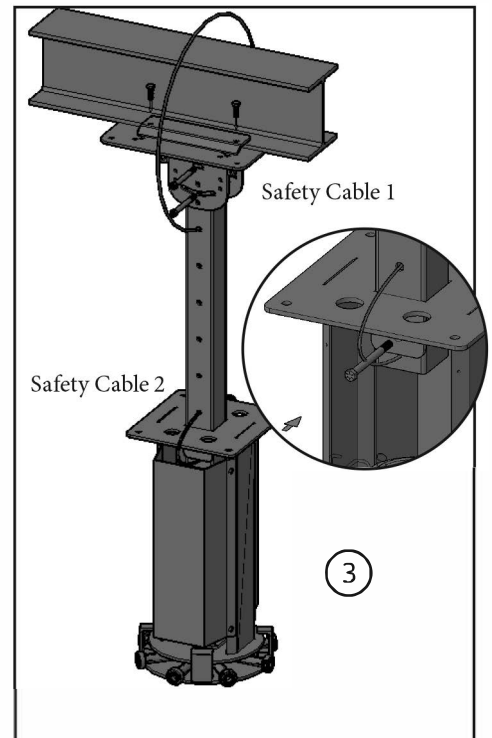

Fig. 8 - Attaching the powerhead assembly
- ③ Fasten the powerhead assembly to the steel downrod using (1)  $\frac{1}{2}$ -13 x 4- $\frac{1}{2}$ " G.5 HHCS, (1)  $\frac{1}{2}$ -13 G.5 Nylon Lock Nut, and (2) 1/2" Flat Washers. Secure the second safety cable, as shown in Fig 8.
The safety cable must be looped between the legs of the fan/hub assembly and through the 3/8" diameter hole near the bottom of the downrod as shown on the drawing in Fig 8 on page 9. As before, the cable clamps must be torqued to the proper value as listed in Table 1.